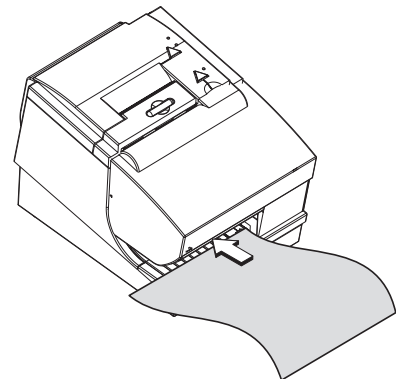

Figure 14. Inserting documents from the side
1. Press the **A** and **B** buttons at the same time (see Figure 14). When you press both buttons at the same time and then release, the document insert throat opens.